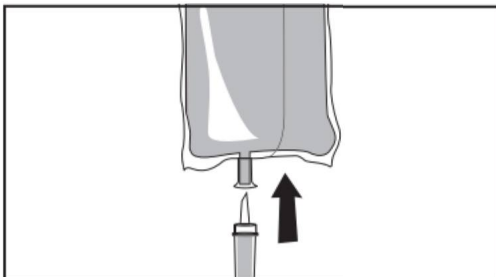

Figure 7. Connecting Saline Flush Line to Saline Bag.
6. Remove cap from tip of Saline Flush Line and attach to the saline source (Figure 7). Ensure clamp on Saline Rush Line is open.